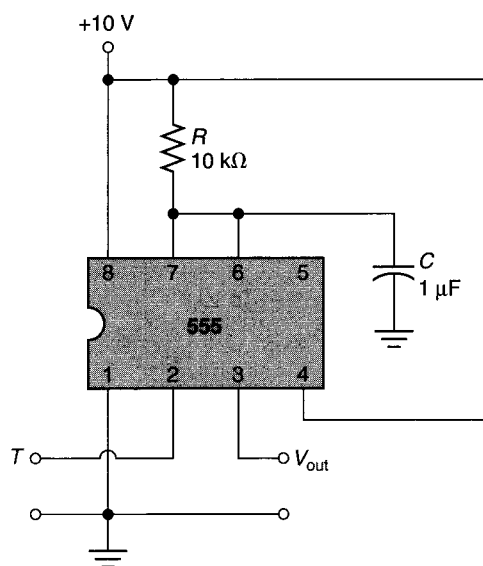

FIGURE 19.63
29. Calculate the output pulse width of the one-shot in Figure 19.63.